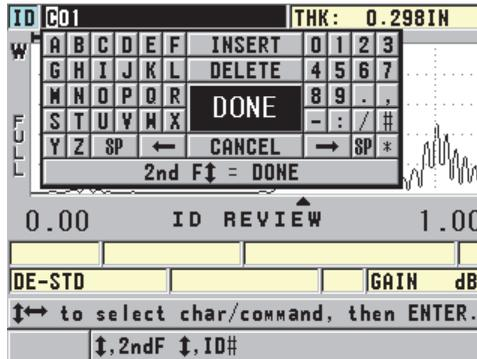

Figure 6-37 Editing the ID # edit mode
4. Press **[2nd F]**, **[FILE]** (ID#) again, and then edit the ID value (see Figure 6-37 on page 115).